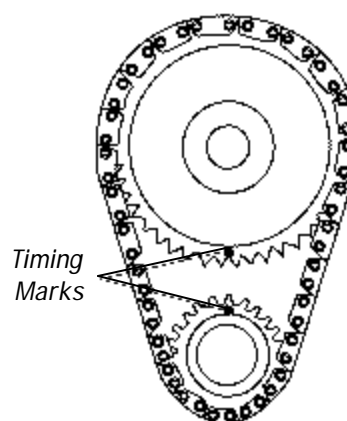

Figure 2 - Timing Chain Sprocket Alignment
15. Remove fuel pump and fuel pump pushrod. Rotate engine until timing marks are aligned as in *Figure 2*.
2. Install new camshaft with new sprockets and timing chain align timing marks as shown. See *Figure 2*.
3. Install camshaft with timing marks lined up as recommended by factory specifications. See *Figure 2*.
- **PUSHRod AND ROCKER ARM INSTALLATION** - After the cam is installed and timed correctly (see *Figure 2*), install pushrods, lifters and rocker arms. NOTE: High performance adjustable rocker arms must be used with screw-in rocker arm studs and guide plates. Stock cylinder heads may require machining to install screw-in studs. Hardened steel pushrods **MUST** be used with guide plates. Longer than stock pushrods may be required.